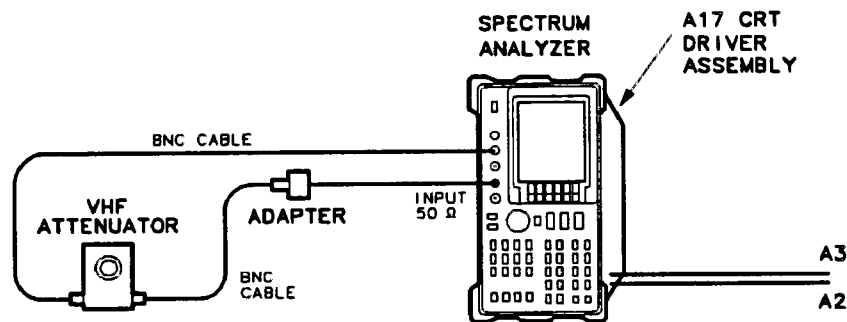

Figure 2-2. Display Adjustment Setup
1. Set the HP 8562A/B **LINE** switch OFF. Remove the analyzer's cover and fold out the A2 Controller and A3 Interface assemblies as illustrated in Figure 2-2. Connect the equipment as shown in Figure 2-2.
27. Press **PRESET** on the analyzer, and connect the equipment as shown in Figure 2-2. Set the HP 8562A/B controls as follows: